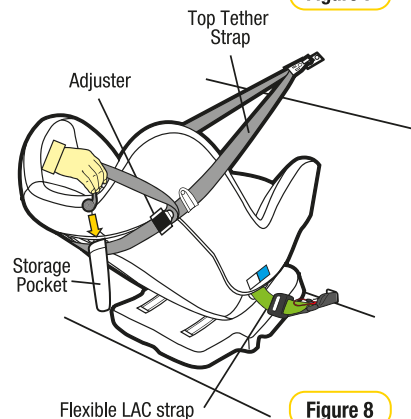

Figure 8
**Step 8:** Store any excess webbing, from the top tether strap, in the storage pocket provided on the restraint (refer Figure 8).